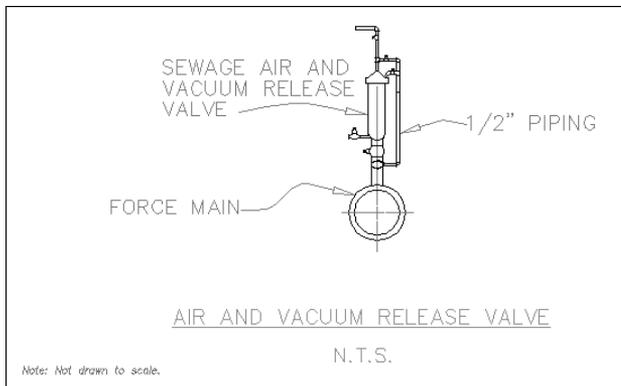

Figure 13-16: You've added text by using a new text style.
6. Save your drawing. It should look like Figure 13-16. If you're going on to the next exercise, keep this drawing open.